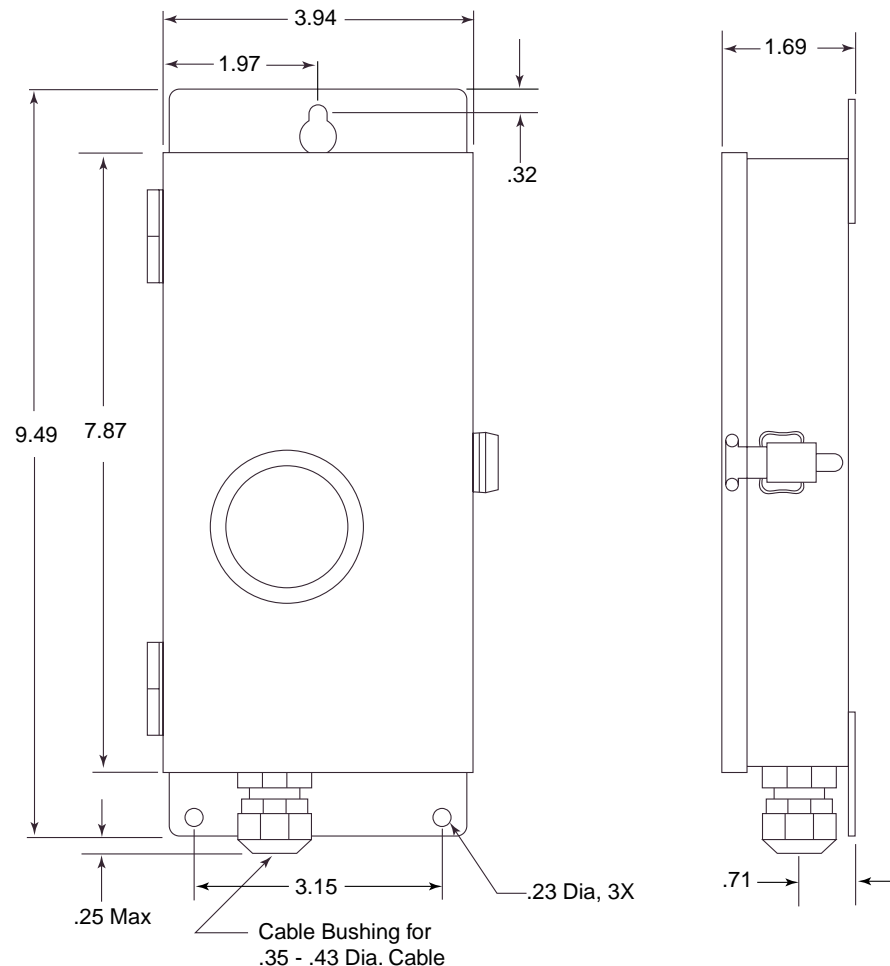

Figure 3: Mounting the GD-K8A
2. Use three #10 screws through the mounting holes in the mounting flanges at the top and bottom of the housing to mount the GD-K8A to a vertical surface (see Figure 3)